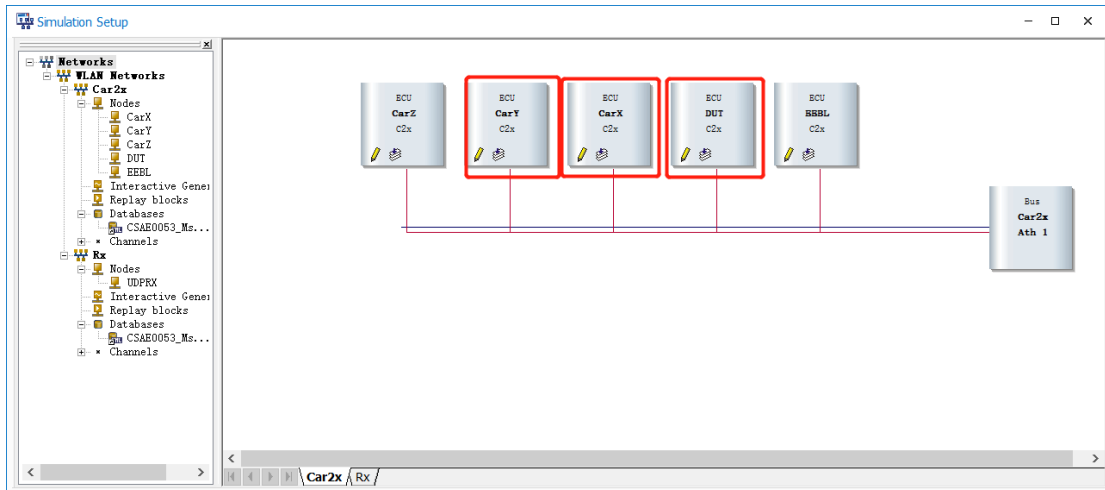
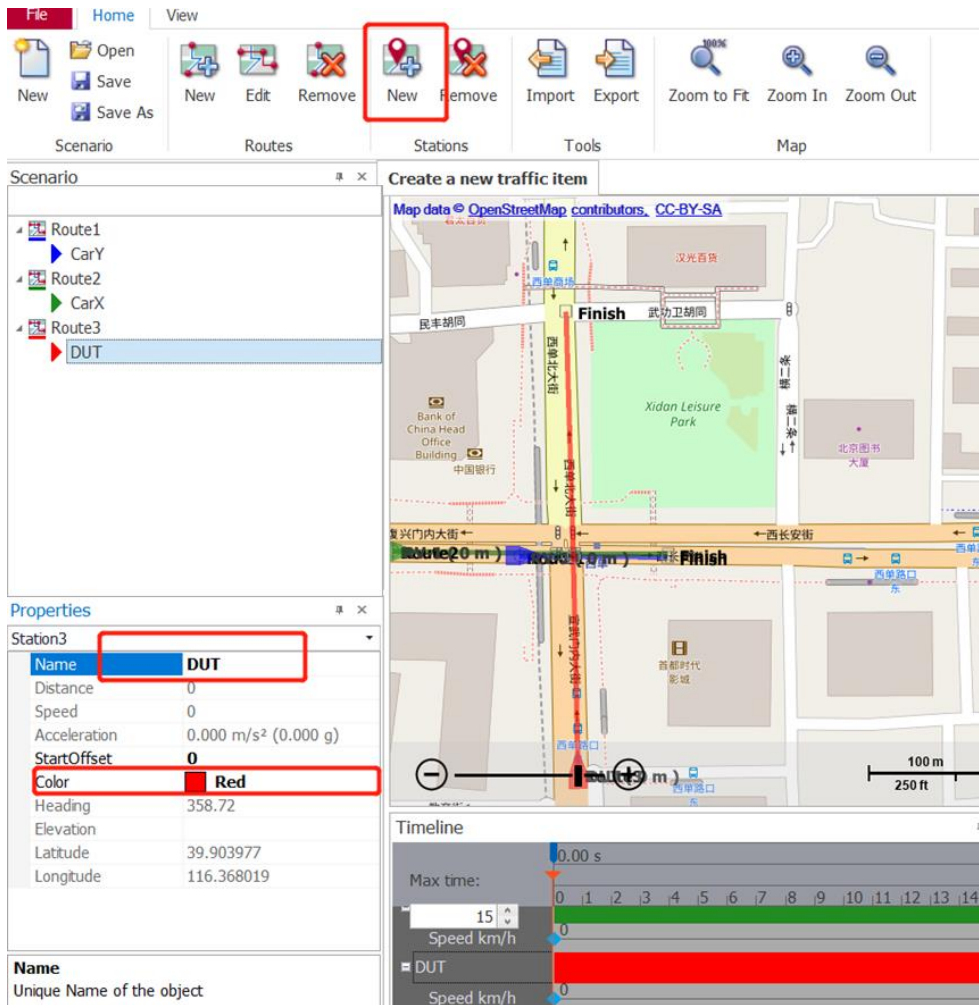

Figure 13: Vehicle simulation node
Figure 14: Edit the node name
- ▶ Click *New Stations*, add 1 vehicle node for each route, and edit its color and name referring to the name of each vehicle simulation node in the CANoe project. HV is named DUT, RV-1 is named CarY, and RV-2 is named CarX (Figure 13, Figure 14).